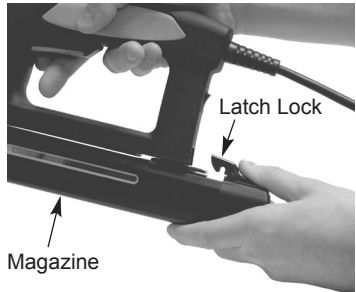

Figure 2
2. Press in latch lock and slide magazine back until fully open (see Figure 2).